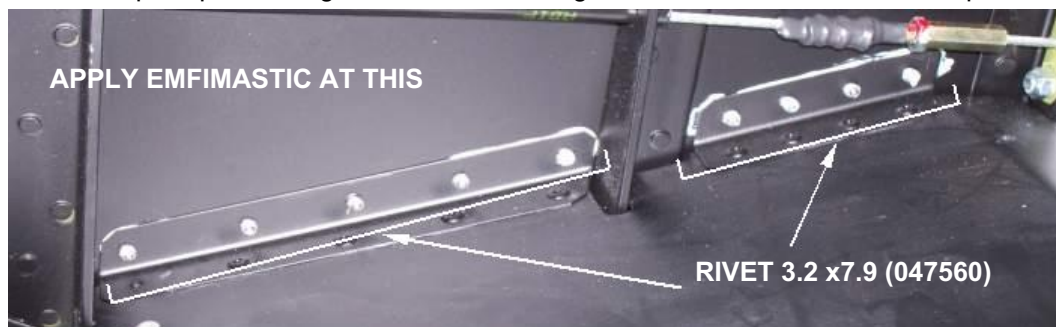
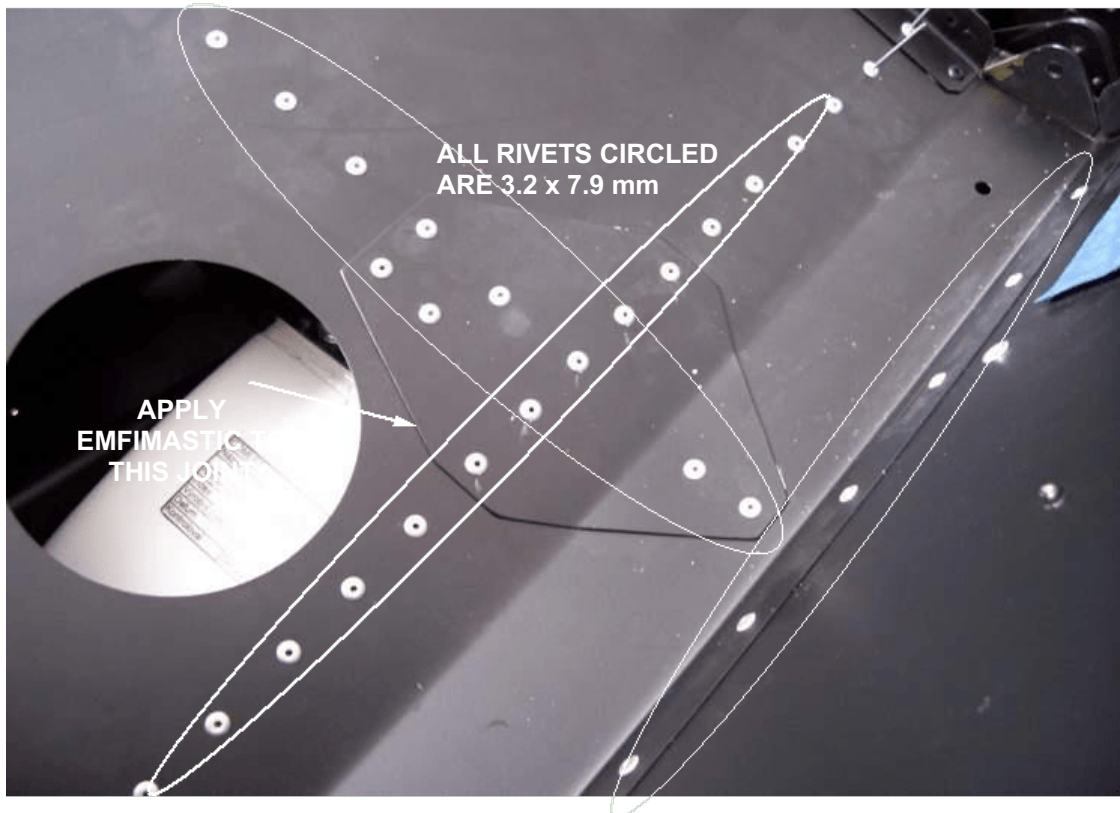

Figure 4a
Figure 5
- A. Fit the seat pan and replace the rivets. Emfimastic should be applied only to the joint with the fuselage side (figure 4a) and between the doubler panel and the seat pan. Most rivets are 3.2 X 7.9mm. The exceptions are: six rivets (three each side) which fit through the spar cap and secure the control stick mounting brackets which are 3.2 X 11.1mm; another four (two each side) of the 3.2 X 11.1mm which fit at the inboard end of the row of rivets along the base of the pan and at the front inner end. Rivet the stick backstops in place using rivet 4 X 12.7mm Figure 5 and 6. See below for rivet part numbers